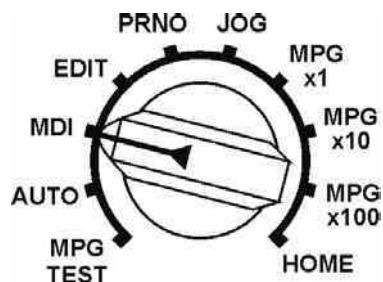

Fig. 2-8
- (1) In the “Edit Screen” (as per Fig. 2-8 below), you may search the interrupted node or reset for restarting such node. Press F4 Key after completing the search or setting; when “Restart” indicates reverse white, it means such function is active.
- (2) Under Auto screen, press F4 Key to select or cancel the function restarting. When “Restart” indicates reverse white, it means such function is closed; otherwise, it will be cancelled. After pressing “Start” key to run the program again, the program will start running from the previously interrupted node or the “Restart” node being set.
- ① When setting “If to grab previous node when restarting” parameter item as “0”, the system will grab the previous node after pressing “Start” key and